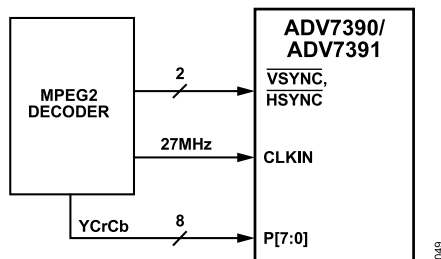

Figure 53. SD Example Application
The ADV7390/ADV7391 support a number of different input modes. The desired input mode is selected using Subaddress 0x01, Bits[6:4]. The ADV7390/ADV7391 default to standard definition (SD) mode on power-up. Table 35 provides an overview of all possible input configurations. Each input mode is described in detail in this section. Note that the WLCSP option is only configured to support SD as shown in Figure 53.